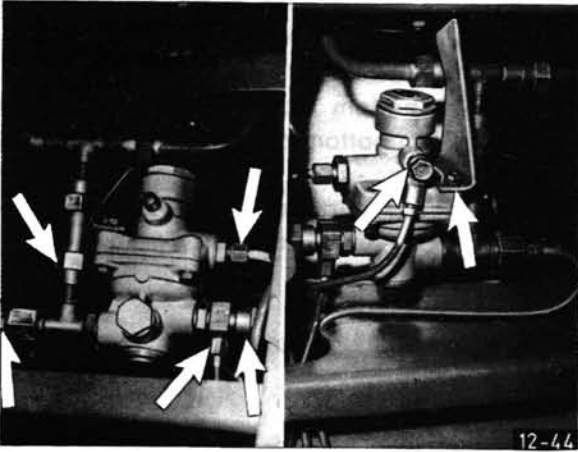

Fig. 42-7/12
2. Loosen supply line of air tank. Refer to Fig. 42-7/12.
3. Loosen supply line toward brake line (yellow). Refer to Fig. 42-7/12.
5. Loosen supply line "brake pressure" toward pressure gauge. Refer to Fig. 42-7/12.